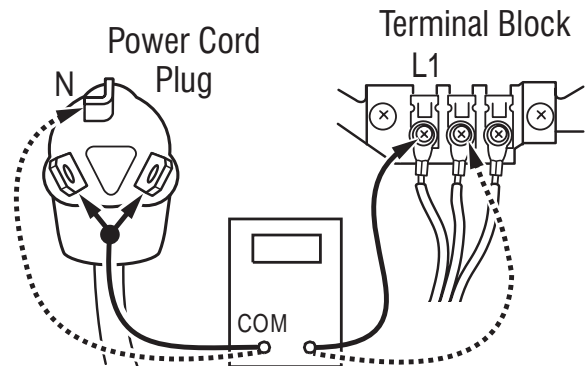

Figure 2 - Plug-to-terminal connections for electric dryer.
3. With an ohmmeter, check for continuity between the neutral (N) terminal of the plug and the center contact on the terminal block. See figure 2.
4. In a similar way, check which terminal of the plug is connected to the left-most contact on the terminal block and make a note of it. This will be L1 (black wire) in the wiring diagram. See figure 2.